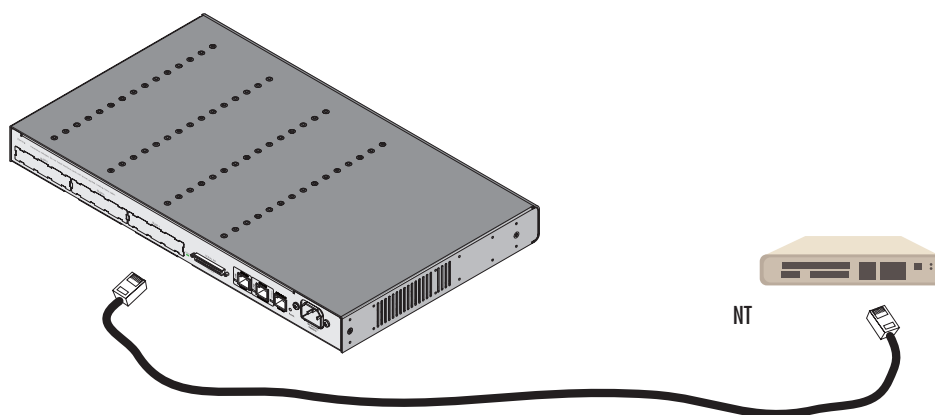
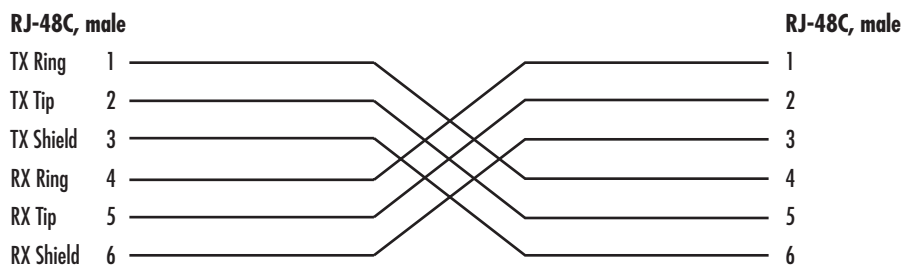

Figure 105. Connecting an T1 PRI port to an NT
Figure 106. T1 crossover cable
The T1 PRI is usually connected to a PBX or telco switch—local exchange (LE). Type and pin outs of these devices vary depending on the manufacturer. In most cases, a straight-through RJ-45 to RJ-45 can be used to connect the PRI with a PBX (an NT) (see figure 105). A cross-over cable is required to connect to an LE, as illustrated in figure 106.